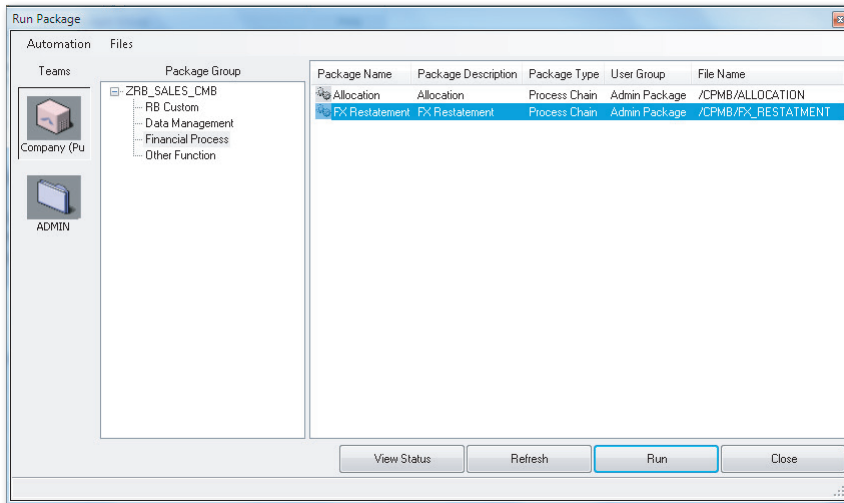
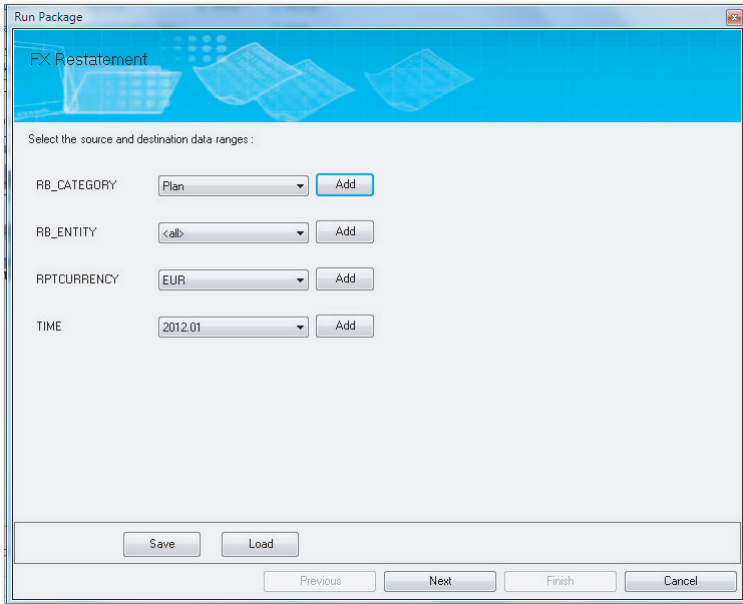

Figure 6.23 Performing Currency Translation—Part D
Figure 6.24 Performing Currency Translation—Part E
- Execute the FX RESTATEMENT data package (Figure 6.23). The system will prompt you to enter parameter values (Figure 6.24). Our objective is to translate transactions in local currency to EUR currency. Select EUR for the report currency.